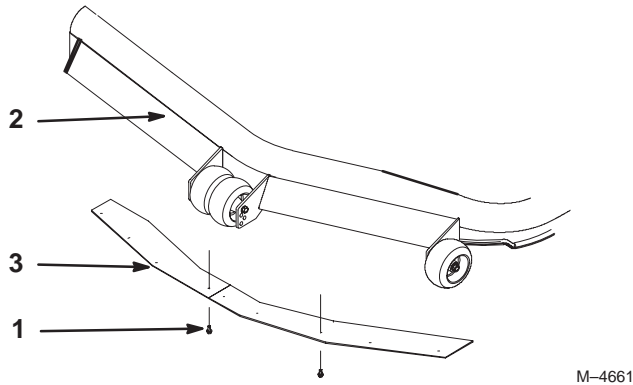

Figure 14
- To install or remove blowout baffles, install or remove bolts as shown in Figure 14.